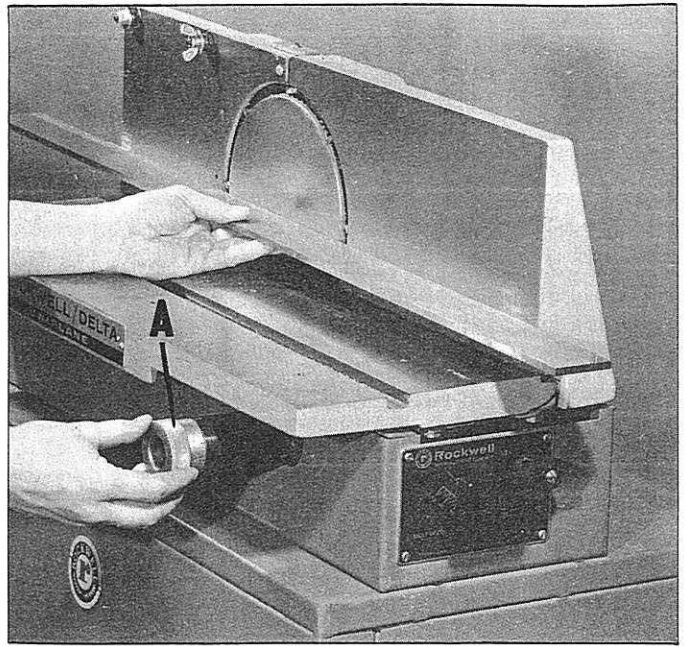

Fig. 9.
1. Position infeed fence outward beyond the outfeed fence, by turning depth of cut control knob (A) Fig. 9, counterclockwise.
2. Place a straight edge on the outfeed fence and the infeed fence as shown in Fig. 9.
3. Turn depth of cut control knob (A) clockwise until the fences are in the same plane, as shown in Fig. 9.